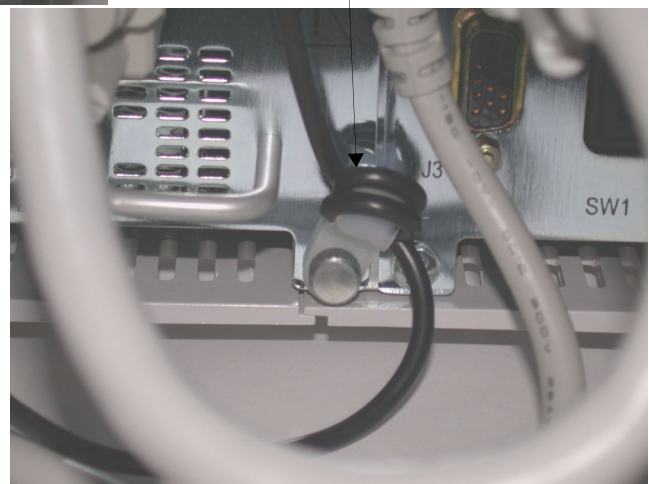

Figure 2-7: Looping the audio output cable around the supplied strain relief
- To prevent accidental removal of the audio output connector, loop the cable at least two times around the supplied strain relief, which is located at the rear bottom corner of the 90387. Refer to *Figure 2-7*.
- Examine any external display for strain relief capability and set it up per manufacturer recommendations. Spacelabs 91415 and 91418 displays incorporate the same strain relief indicated in *Figure 2-7*. Any remote display incorporating audio must have cable secured at both ends to assure reliable audio at both monitor and display.